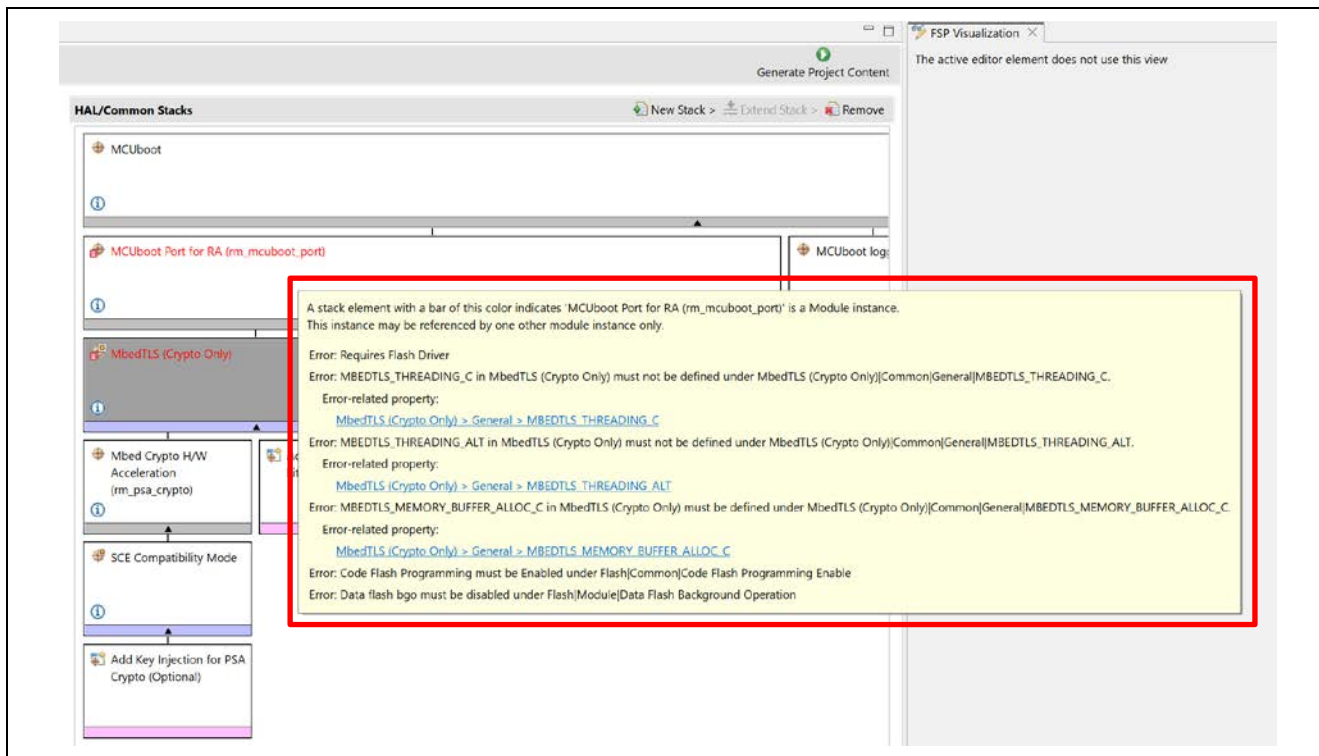

Figure 50. Dependencies of MCUboot Module for RA Stack
- Configure the Mbed Crypto dependencies. Follow the prompt in Figure 50 to update the corresponding properties for the MCUboot Port for RA Module.